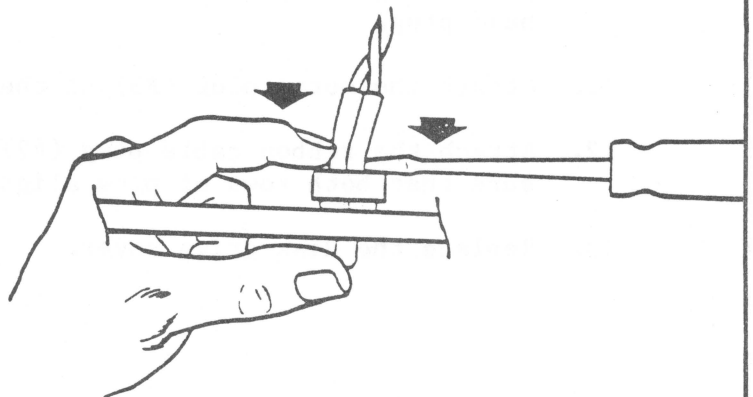

FIGURE 8
- b. Slide the retaining ring down the wires and position it around the LED holder. Push the retaining ring back into place with a screwdriver (Fig. 8).